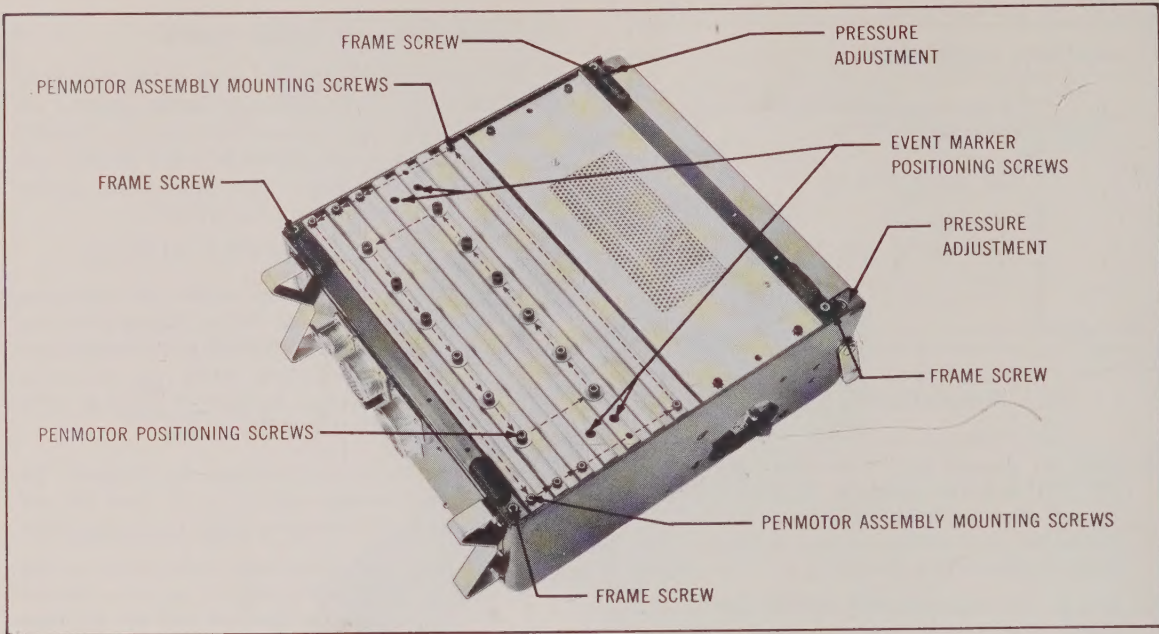

Fig. 6. View of Underside of Oscilloscope
two PRESSURE ADJUSTMENT screws recessed in the corners of the underside of the frame. Fig. 6. (Turning the PRESSURE ADJUSTMENT screws "in" *increases* the tension while "backing-off" the screws *decreases* the tension.)
3. While keeping the instrument blocked up, loosen very slightly, the PENMOTOR POSITIONING SCREWS of the particular penmotor to be adjusted. Fig. 6. Usually  $\frac{1}{4}$  of a full turn is sufficient.